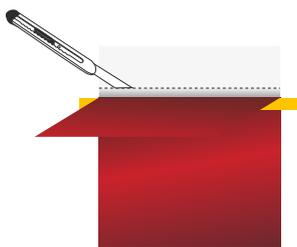

Figure 03
- › Retirer 10 cm de liner. (FIG. 03)